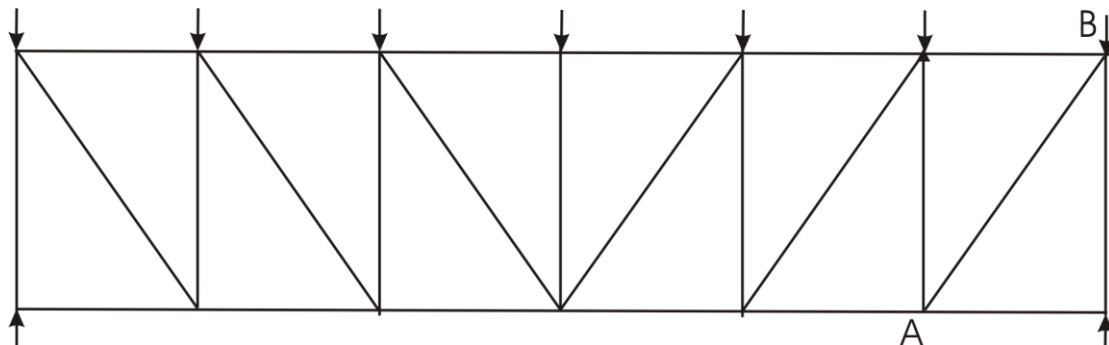

Figure 4
- b) A pratt truss shown in figure 4 is to be used in the construction of parking bay in MMUST. Design a tie for the member AB. Tensile force in member AB is taken as: